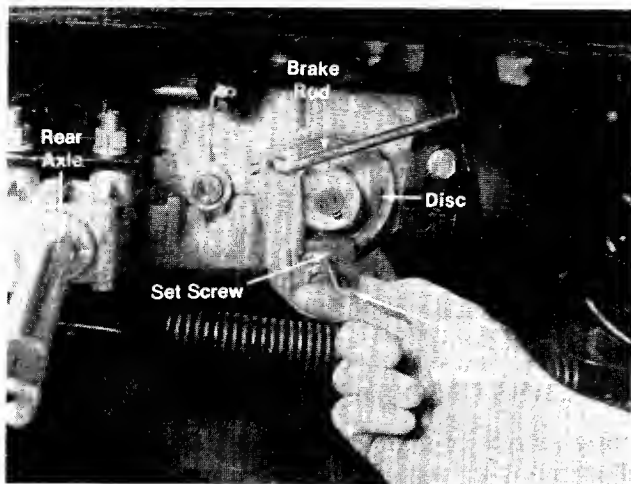

FIGURE 25.
3. If adjustment is necessary, tighten or loosen the brake set screw until the correct dimension is obtained. (See figure 25.) Periodic adjustment is necessary to maintain effective brake operation.